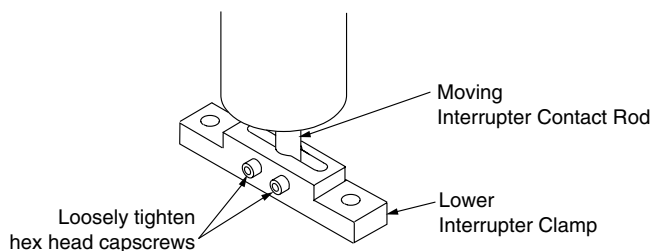

Figure 10.
12. Set the replacement interrupter into the lower clamp and loosely tighten the two hex head capscrews to secure the moving contact of the interrupter. See Figure 10.